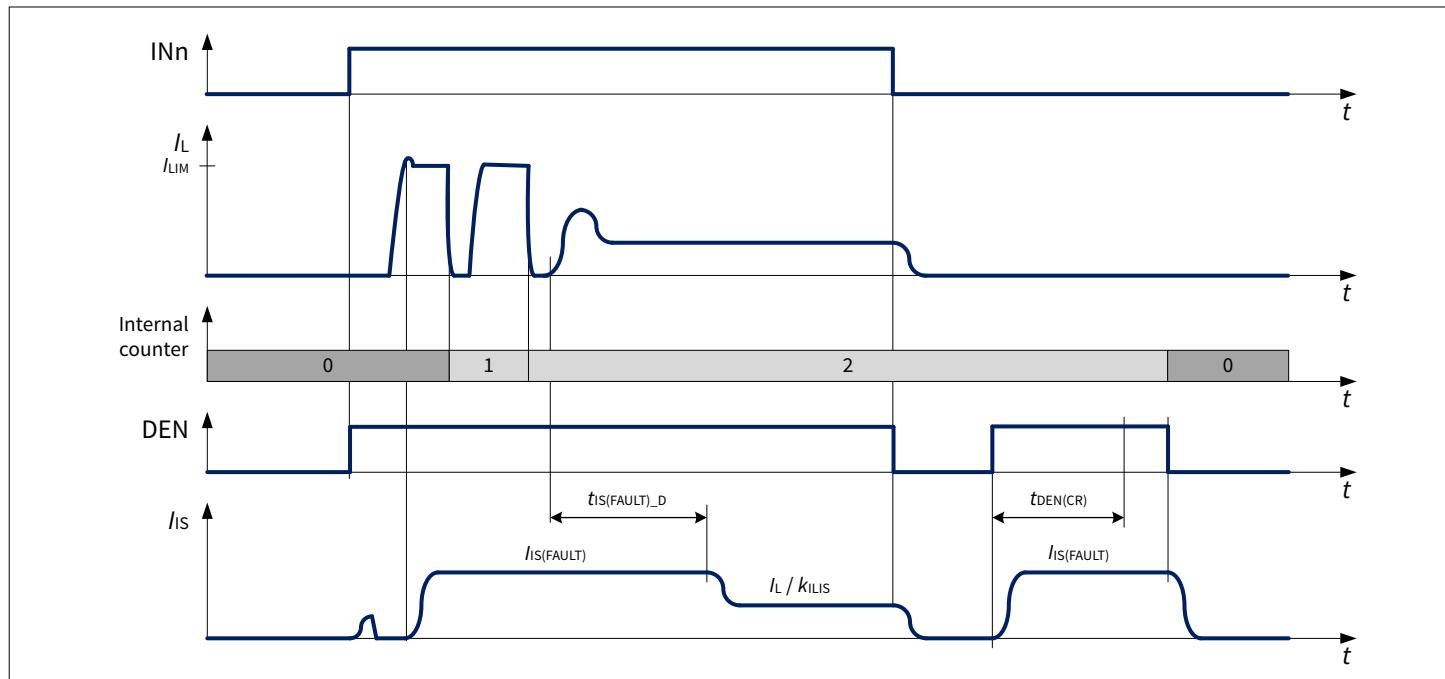

Figure 30 $I_{IS(FAULT)}$ at load switching
- If the channel is ON and the number of restarts is less than " $n_{RESTART(CR),TYP}$ ", the current $I_{IS(FAULT)}$ is provided for a time $t_{IS(FAULT)_D}$ after the channel is allowed to restart, and thereafter $I_{IS} = I_L/k_{ILIS}$ (as shown in Figure 30). During a restart cycle the current $I_{IS(FAULT)}$ is provided each time the channel diagnosis is checked.